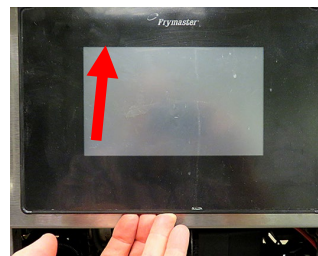

Figure 3
4. Slide the controller up to disengage it from the bottom of the bezel (see Figure 3).